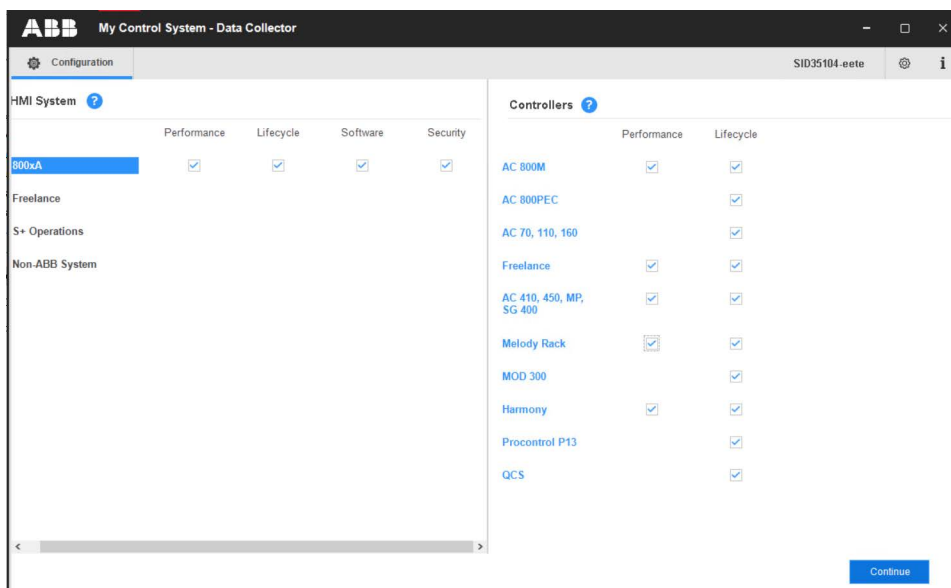

Figure 71. Controllers
8. Select the required data category for HMI and controller and then click on the **Continue** button to proceed. Select Cyber Security option only when it is needed as it will take significantly longer time for data collection. A typical selection is shown in Figure 71. Please note, data collection for AC800M controllers should only be done along with an HMI.